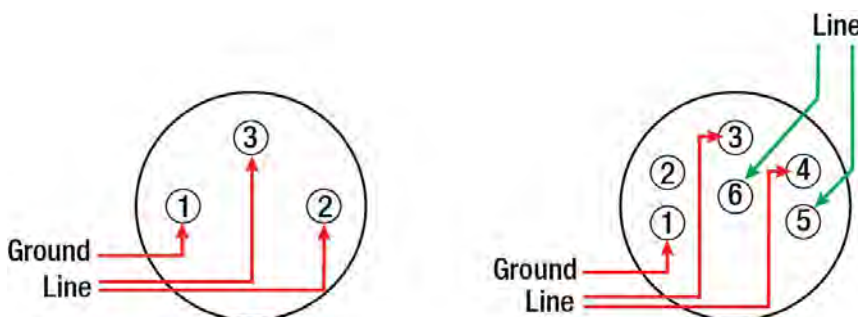

Figure 125: XLR Terminations
**AudioCom® XLR Terminations** – See Figure 125.